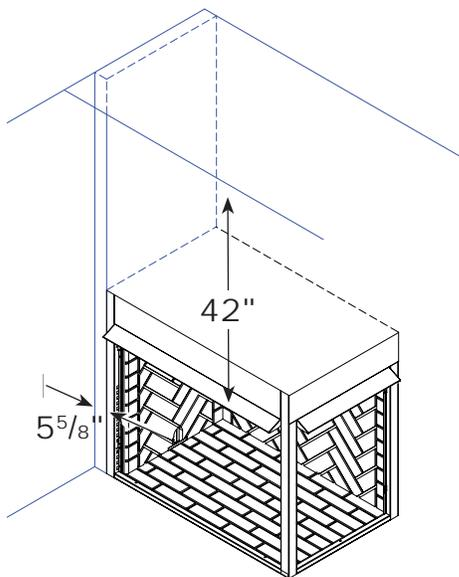

Figure 3 - Sidewall and Ceiling Clearances
Ensure that minimum clearances shown in *Figures 3 through 7* are maintained. Left and right clearances are determined when facing the front of the firebox.
1. **Sidewall Clearances** — The clearance from the inside of the appliance to any combustible adjacent wall should not be less than $2\frac{7}{8}$ ". Refer to *Figure 3*.
2. **Ceiling Clearance** — The ceiling must be at least 42" from the top of the firebox opening (bottom of hood). Refer to *Figure 3*.